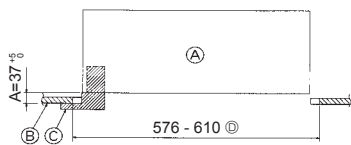
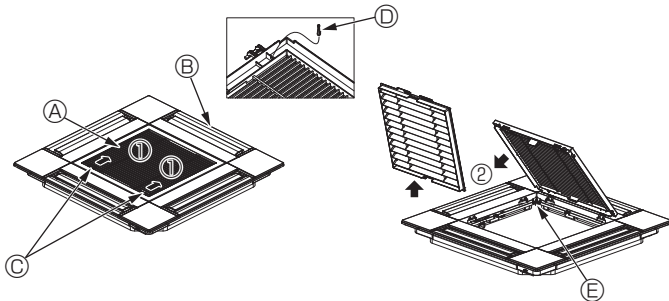
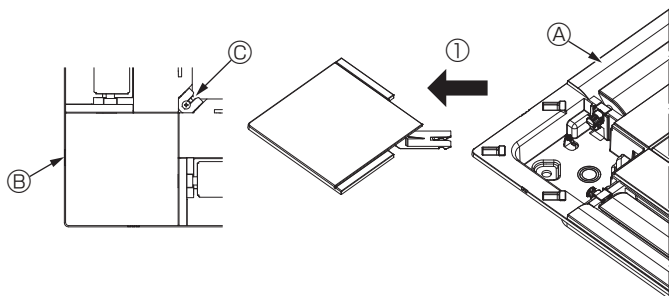

Fig. 5-2
Fig. 5-3
Fig. 5-4
②	Screw with washer	4	M5 × 0.8 × 28 (mm)
③	Gauge	1
④	Junction wire for signal receiver	1	Included when equipped with the signal receiver.
⑤	Junction wire for i-See sensor	1	Included when equipped with the i-See sensor.
⑥	Fastener	2	Included when equipped with the signal receiver.
⑦	Fastener	2	Included when equipped with the i-See sensor.
⑧	Wireless remote controller	1	Included when equipped with the wireless remote controller.
⑨	Remote controller holder	1	Included when equipped with the wireless remote controller.
⑩	LR6 AA batteries	2	Included when equipped with the wireless remote controller.
⑪	3.5 × 16 tapping screws	2	Included when equipped with the wireless remote controller.
5.2. Preparing to attach the grille (Fig. 5-2)
- ④ Main unit
⑤ Ceiling
⑥ Gauge (Accessory)
⑦ Ceiling opening dimensions
5.2.1. Removing the intake grille (Fig. 5-3)
- Slide the levers in the direction indicated by the arrow ① to open the intake grille.
- With the intake grille in the "open" position, remove the hinge of the intake grille from the grille as indicated by the arrow ②.
- ④ Intake grille
⑤ Grille
⑥ Intake grille levers
5.2.2. Removing the corner panel (Fig. 5-4)
- Remove the screw from the corner of the corner panel. Slide the corner panel as indicated by the arrow ① to remove the corner panel.
- ④ Grille
⑤ Corner panel
⑥ Screw
⑦ Grille hook
⑧ Hole for the grille's hook